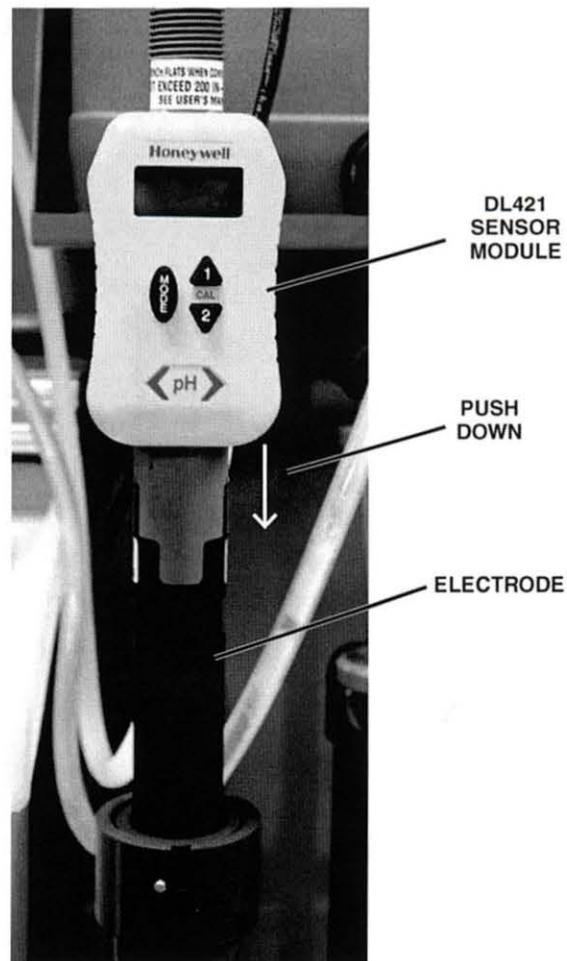

Figure 18. Module Connected to Electrode
C. Connect the DL421 Sensor Module to the electrode by pushing the module straight down, as shown in figure 18.